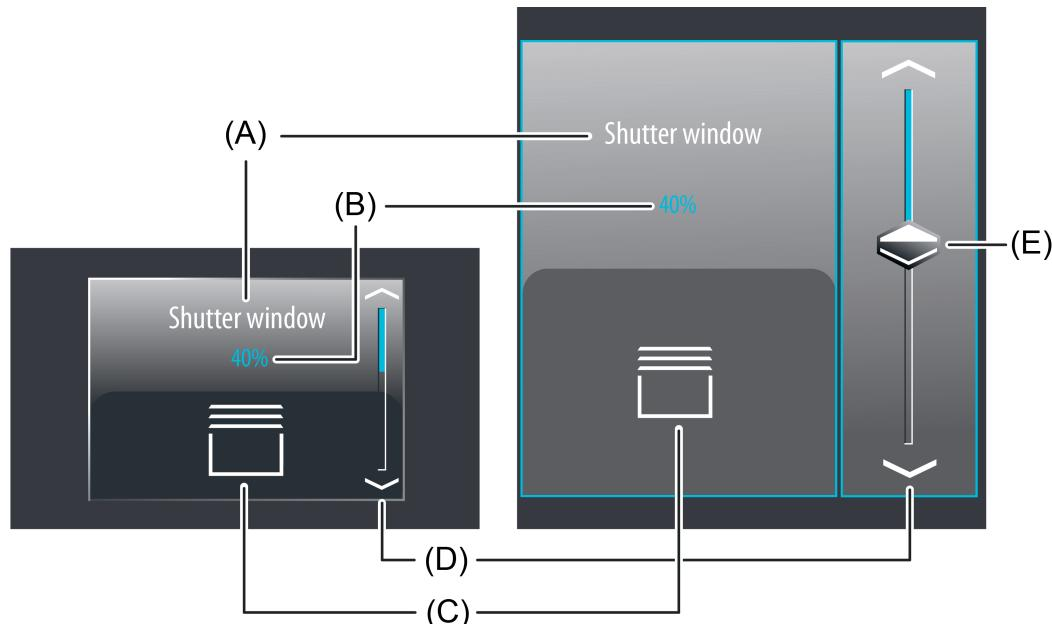

Figure 31: Example of an operating and display element of the function "Rolling shutter positioning"
In the selection operation, a slider (E) is also available in addition to the sensor surfaces \swarrow / \searrow for positioning in the end positions or for value (figure 31). It is possible to specify positions for blind/shutter heights directly with graphic support using the slider. For this purpose, the slider can be set by finger pressure or continuously moved. To set the slider, you must touch the slider area at the required position with your finger. The slider then jumps immediately to the required position. At the same time, the device transmits the position value specified thus as a setting to the bus.
The display area contains different display elements (figure 31) that are influenced by parameters. A name can be assigned to each KNX function in the configuration software (A). This text name is centred in the display element for display whereby controllable KNX functions are identified for the user (e.g. "Rolling shutter window"). In addition, a status value (B) for the blind/shutter height can be displayed below the name, which either displays position values in plain text ("0...100 %") depending on the object value of the position feedback of the Venetian blind or rolling shutter actuator addressed or alternatively directly depending on the preset position value of the operating element. After a device reset, the display shows "---%" until a feedback object value of the status text is received or a position value is specified.